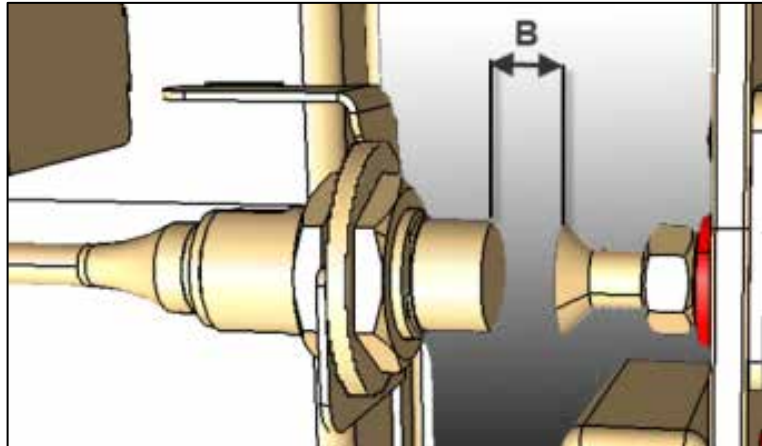

Figure 22
23. Adjust gap between proximity switch and cap screw to $5/16'' \pm 1/32''$ (8mm \pm 1mm) **(B)** (Figure 22)